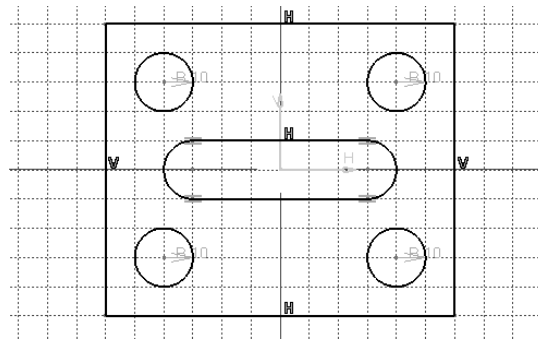

Figure 2-43 The final sketch
15. Similarly, draw the other two circles. The coordinates of the center point of the other two circles are -40, 30 and -40, -30, respectively. The final sketch, with the display of constraints turned on, is shown in Figure 2-43.